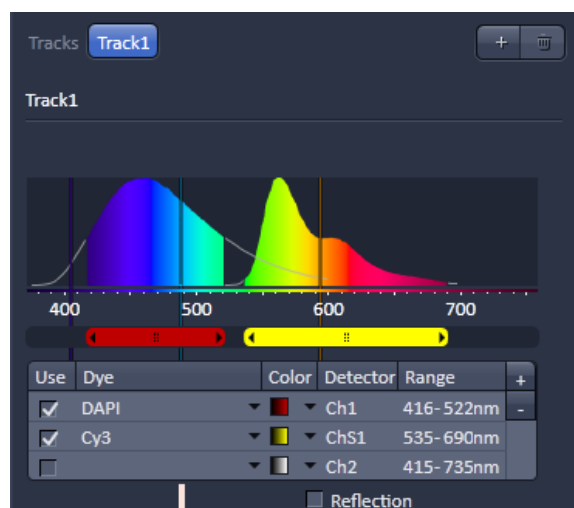

Fig. 17 Detection bands and laser lines display
- For the configuration of the beam path, please refer to the application-specific configurations depending on the used dyes and markers and the existing instrument configuration (Fig. 17).
- The Detection Bands & Laser Lines are displayed in a spectral panel (Fig. 17) to visualize the activated laser lines for excitation (vertical lines) and activated detection channels (colored horizontal bars).